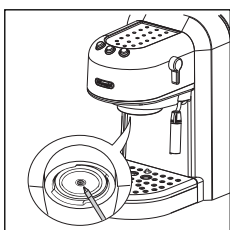

fig. 30
- Using a screwdriver, unscrew the screw fixing the espresso boiler outlet (fig. 30);